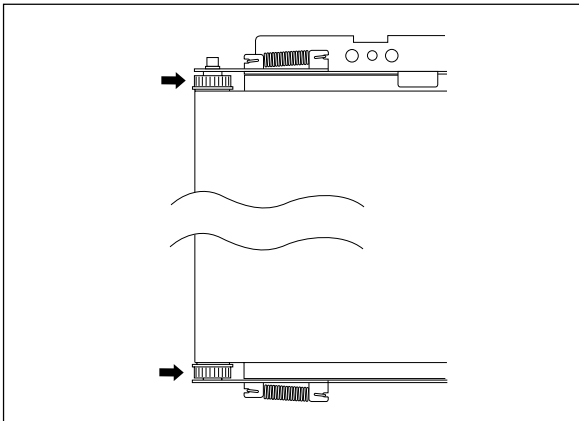

Fig. 17
10) Remove the Endless Sheet. (See Figs. 17, 18, and 19.)
1. Push the sheet roller section inside as shown in Figs. 17 and 18.